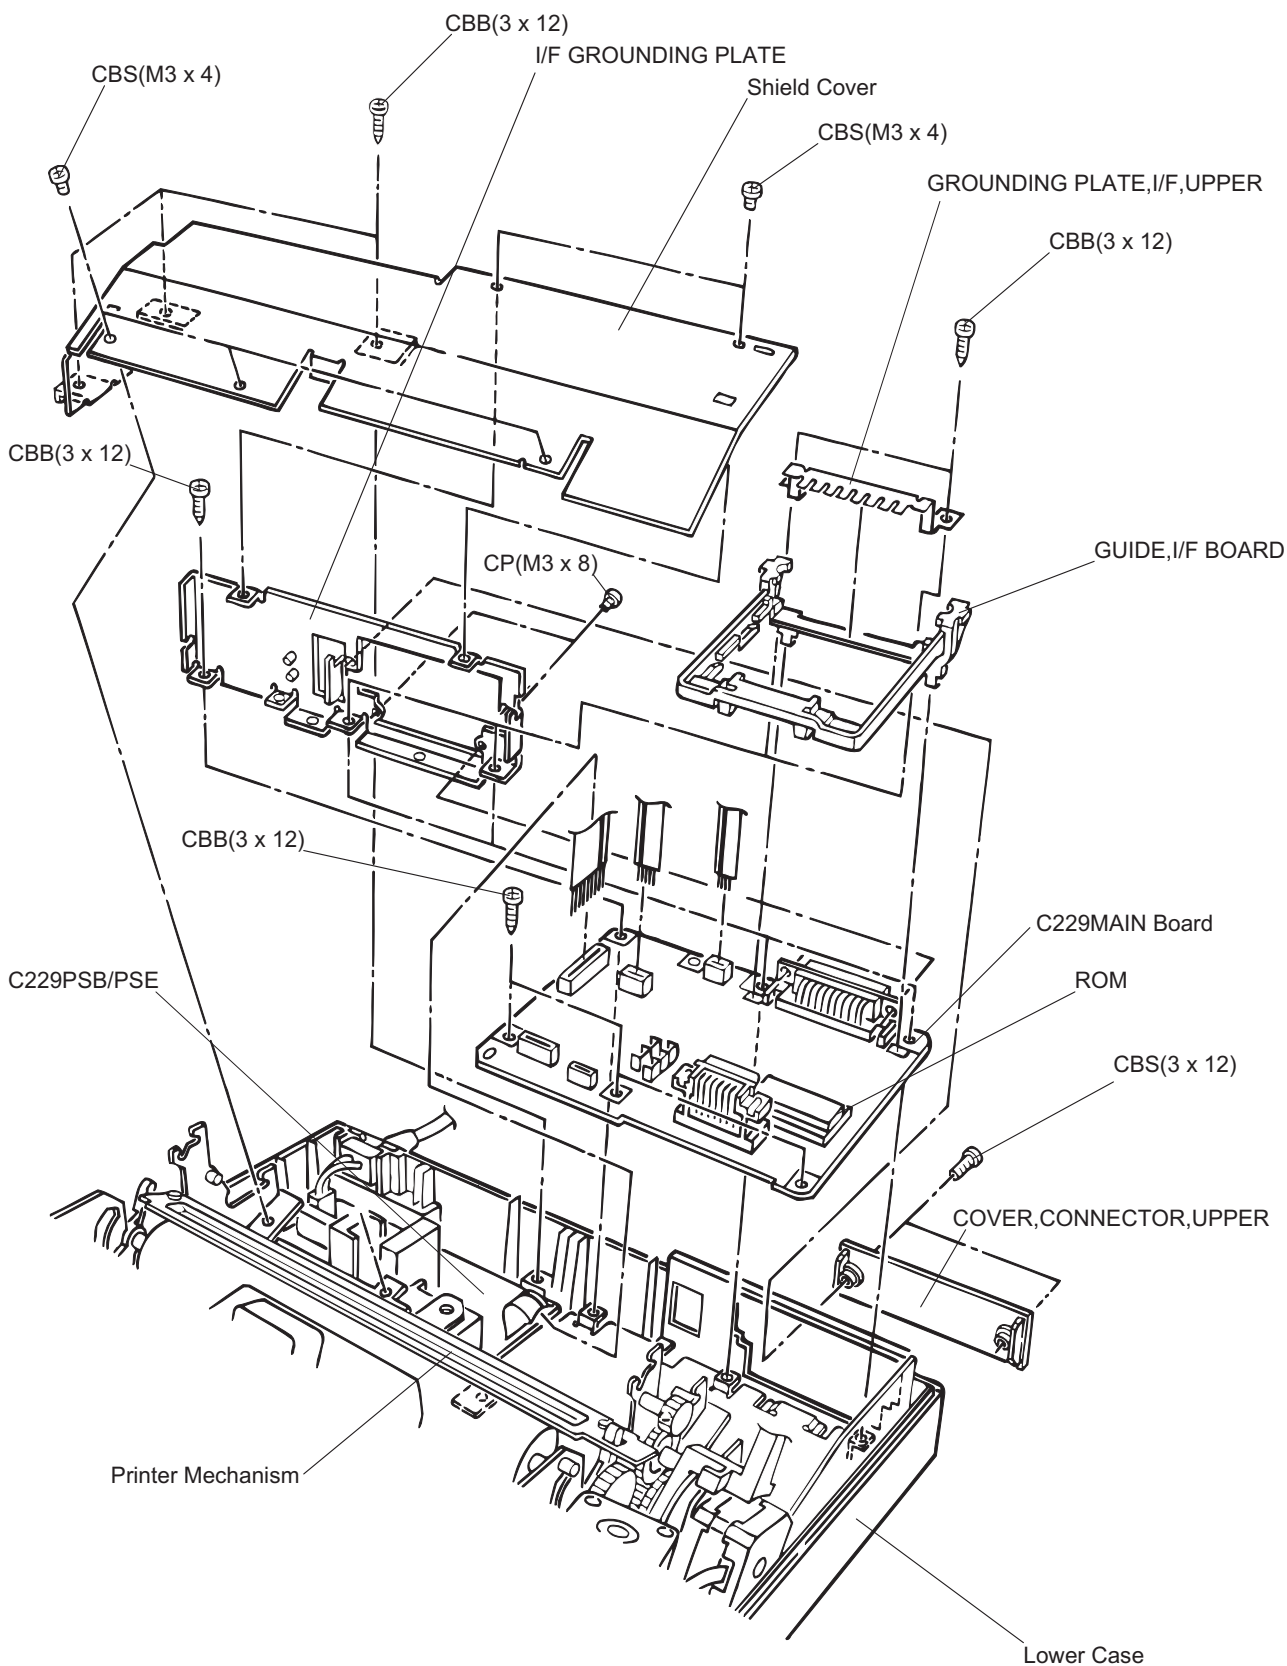

Figure 4-6. C229MAIN Board Removal
3. Remove 5 CBS (M3 × 4) screws and 3 CBB (3 × 12) screws securing the shield cover to the printer mechanism and lower housing and remove the shield cover. (See Figure 4-6.)